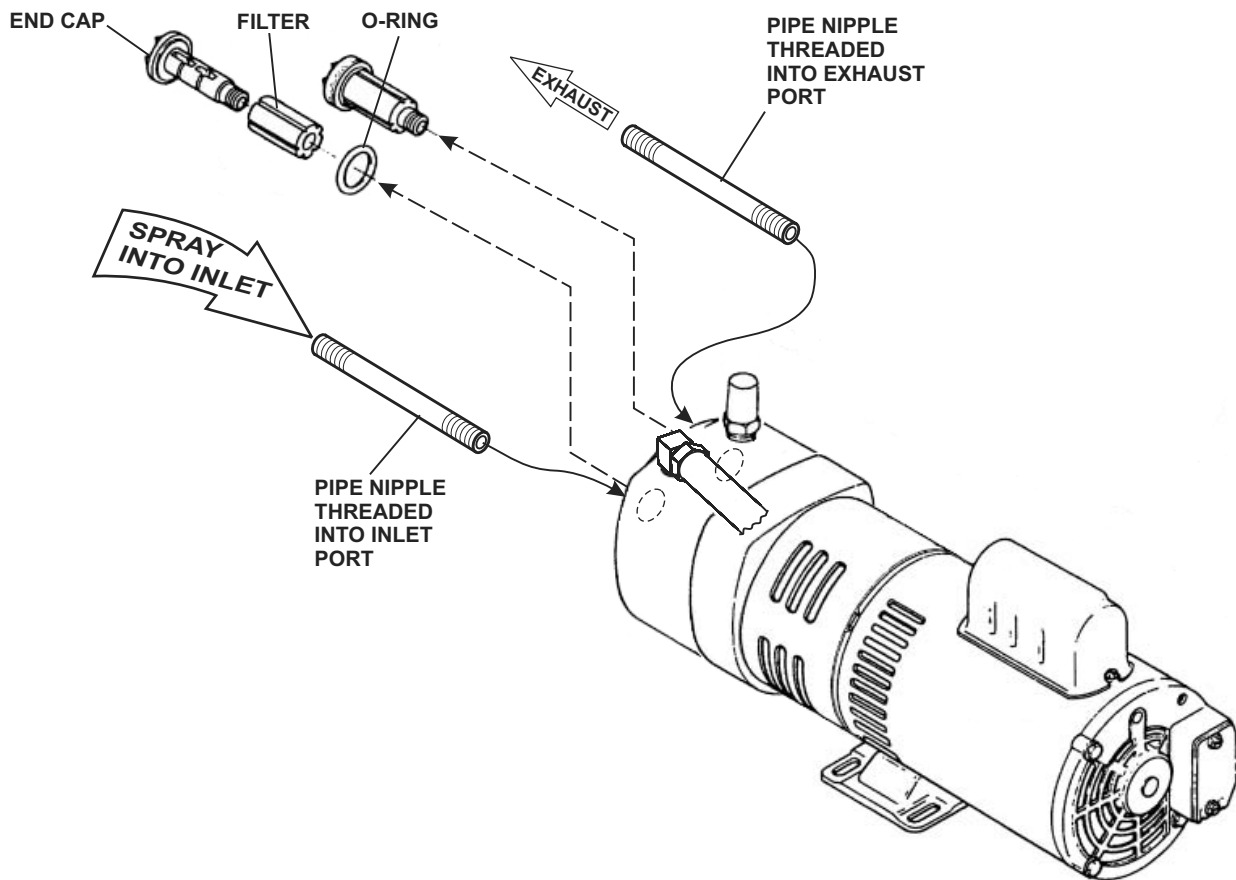

Figure 9. Vacuum Pump Flushing
5. Start pump. Place towel over exhaust pipe to absorb solvent spray. Spray Matrx solvent (p/n 77000699) into inlet pipe (see Figure 9) for 5-10 seconds. Operate pump for one minute and repeat procedure until the desired performance is restored.